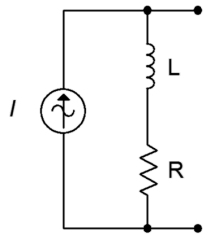

Figure 5.40
69. Design an equivalent voltage source for Figure 5.40 if $I = 10E-3\angle 0^\circ$, $R = 9.1\text{ k}\Omega$ and $L = 5\text{ mH}$. The source frequency is 100 kHz.
70. Design an equivalent voltage source for Figure 5.40 if $I = 50E-3\angle 0^\circ$, $R = 560\ \Omega$ and $X_L = j350\ \Omega$.